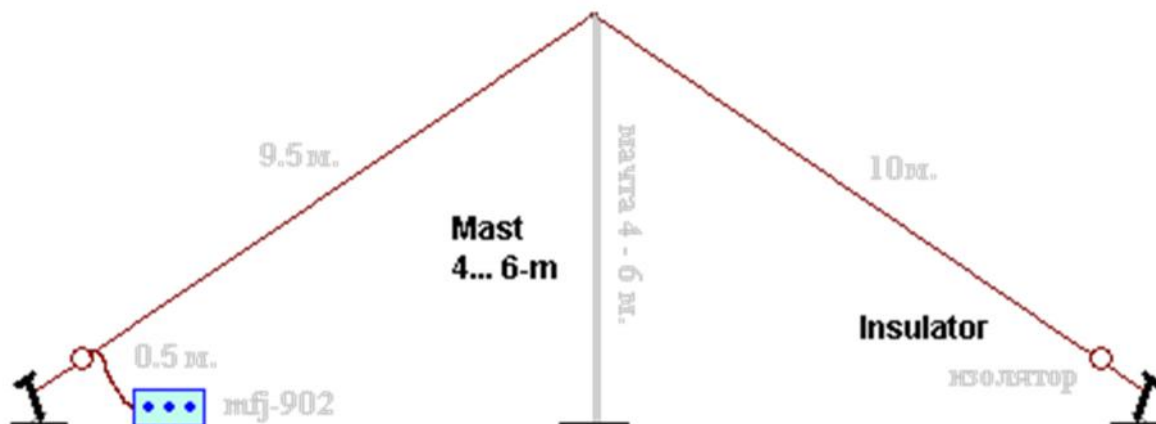

Figure 5 End Feed I.V. Antenna
5. In the forest use antenna shown in the Figure 5.